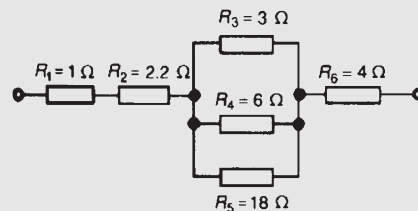

Figure 5.20
**Problem 10.** Find the equivalent resistance for the circuit shown in Fig. 5.20